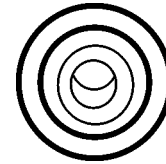

Figure 31. Pre-Heat Lamp
4. Depending on the temperature of the coolant (cold weather conditions), the pre-heat lamp (Figure 31) will light (**ON**) and remain on until the pre-heating cycle has been completed. After completion of the pre-heating cycle, the light will go **OFF** and the engine will start up automatically.